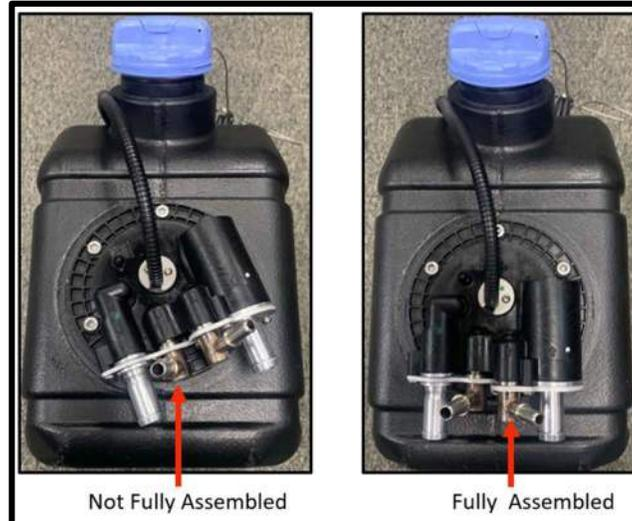

Figure 2.11 Installation of Head Unit
- 9) Push down the head unit while rotating it clockwise till it comes to a stop then rotate the head unit again till it reaches the final position as shown in **Figure 2.11**
! *Note: Installation of the head unit is a two-step process. You may feel the head unit is fully assembled before it reaches its final position but continue to rotate it till it reaches to final position. Refer above **Figure 2.11***